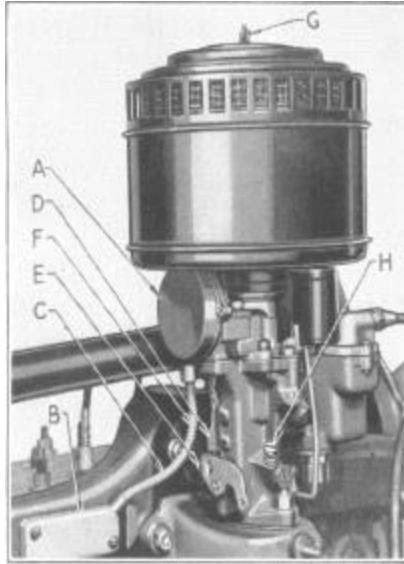

Figure 5
The choke valve, the mechanism for which is contained in the insulated housing (4), Figure 5, is fully closed when the engine is cold at average air temperatures (75° Fahrenheit). Hot air drawn off the exhaust manifold through the stove (B) and tube (C) enters the control housing, giving accurate positioning of the choke for all starting and operating conditions.
5. Turn carburetor idling screw (H), Figure 5, into its seat and back out exactly one turn.
8. Set carburetor throttle stop screw (E), Figure 5, so that engine idles at a speed equal to a car speed of 7 m. p. h. in high gear.
9. Adjust carburetor idling screw (H) for smooth engine idling. The final adjustment should be from ½ to 1 turn of the screw from its full *in position*.